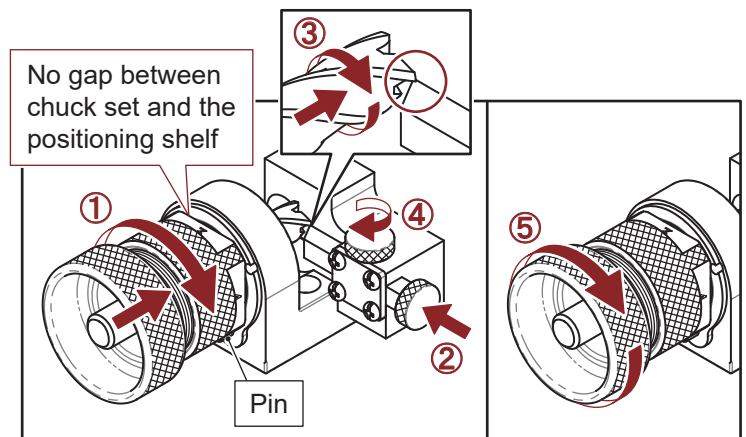

Fig. 8-2
2. End mill positioning (Fig. 8-2) :
① Align Slot No.1 of the clamping nut to the pin on the positioning shelf, insert the chuck set into the positioning shelf and fit them with no gaps, then turn the chuck set clockwise until it stops by the pin.
② Slowly move the alignment block inward.
③ Push the end mill to the end and slowly turn it clockwise until the outer corner of the end mill's longer cutting edge touches the tip of the alignment block.
④ Turn the set screw clockwise to lock the alignment block.
⑤ Tighten the chuck set to secure the end mill.